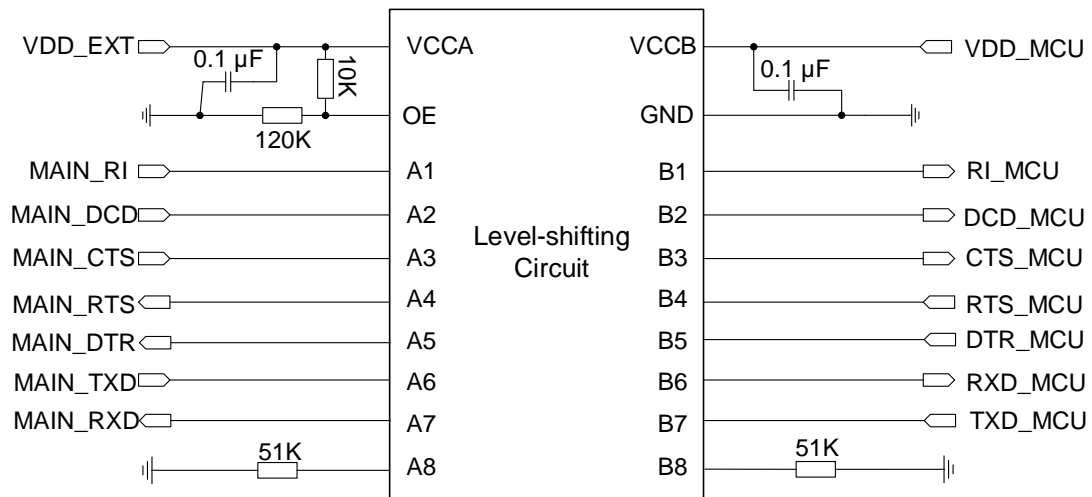
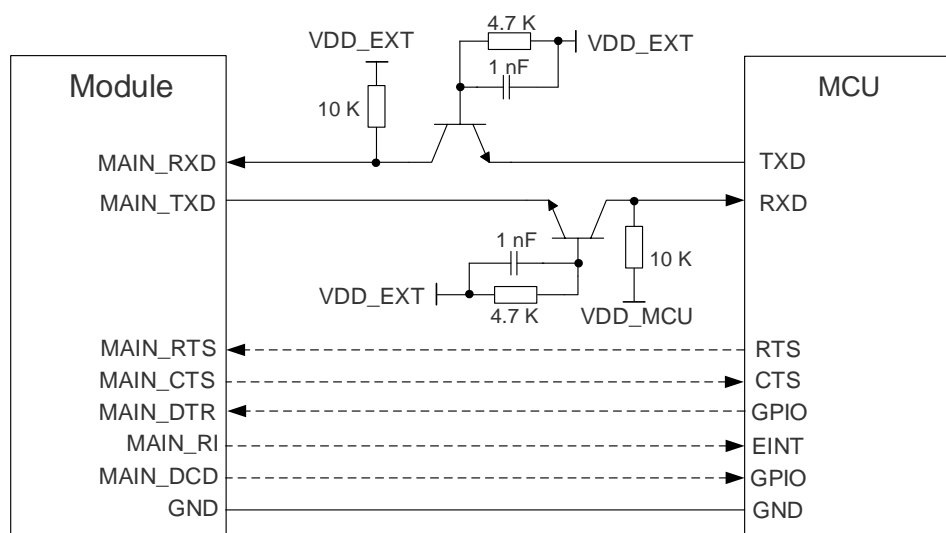

Figure 20: Reference Design of UART with Voltage-Level Translator (Main UART)
Figure 21: Reference Design of UART with Transistor Level-Shifting Circuit (Main UART)
3. The level-shifting circuits (**Figure 20** and **Figure 21**) take the main UART as an example. The circuits of the debug UART and the auxiliary UART are connected in the same way as the main UART.